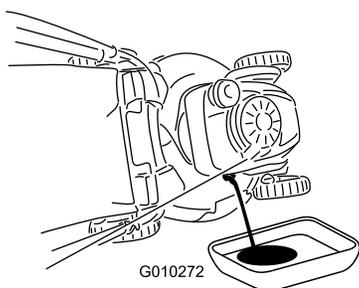

Figure 23
- Tip the machine onto its side, with the dipstick down, to drain the used oil out through the oil-fill tube into an oil drain pan (Figure 23).